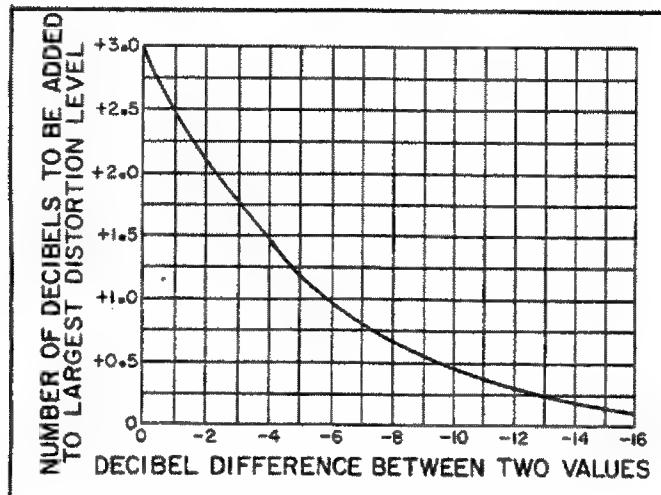

Figure 4-3. Logarithmic Addition of Harmonic Components.
g. Calculate the Total Harmonic Distortion using the graph shown in Figure 4-3. As an example—If the amplitude of the second harmonic is -110 dB and the third harmonic amplitude is -114 dB the dB difference between the two is -4 dB. Locate this number on the horizontal axis of the graph. The -4 line intersects the curve at approximately the $+1.5$ level on the vertical axis. The total harmonic distortion is therefore the amplitude of the largest harmonic (second harmonic) plus the number determined on the vertical axis (-110 dB $+ 1.5$ dB $= -108.5$ dB).